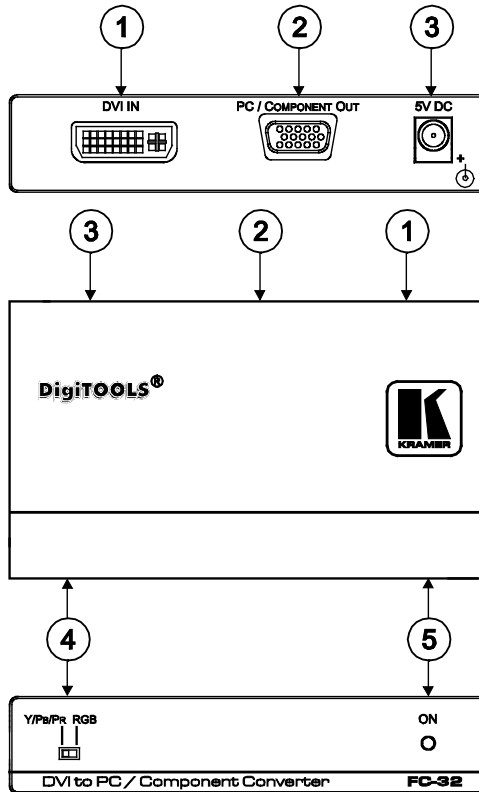

Figure 1: FC-32 DVI to PC/Component Converter Functions
Figure 1 and Table 1 define the unit.
3. Set the front panel switch (see Figure 1) to Y/PB/PR for a component acceptor or to RGB for a computer graphics acceptor.